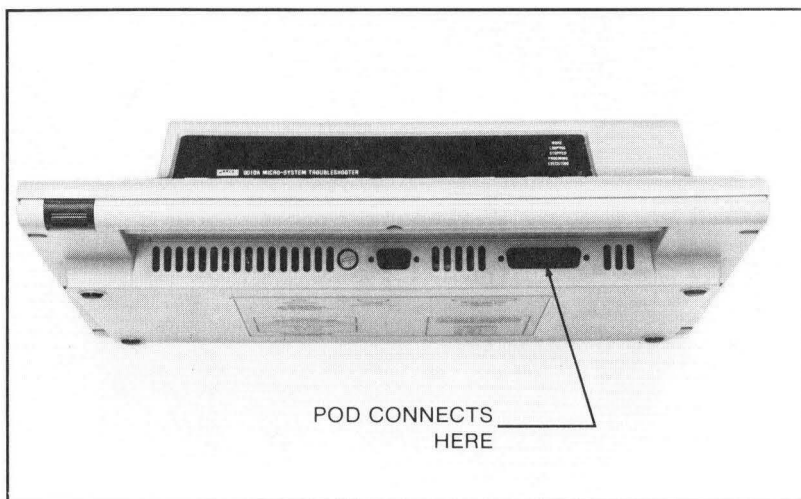

Figure 2-1. Connection of Interface Pod to Troubleshooter
2. Using the round shielded cable, connect the pod to the troubleshooter as shown in Figure 2-1. Secure the connector using the sliding collar.